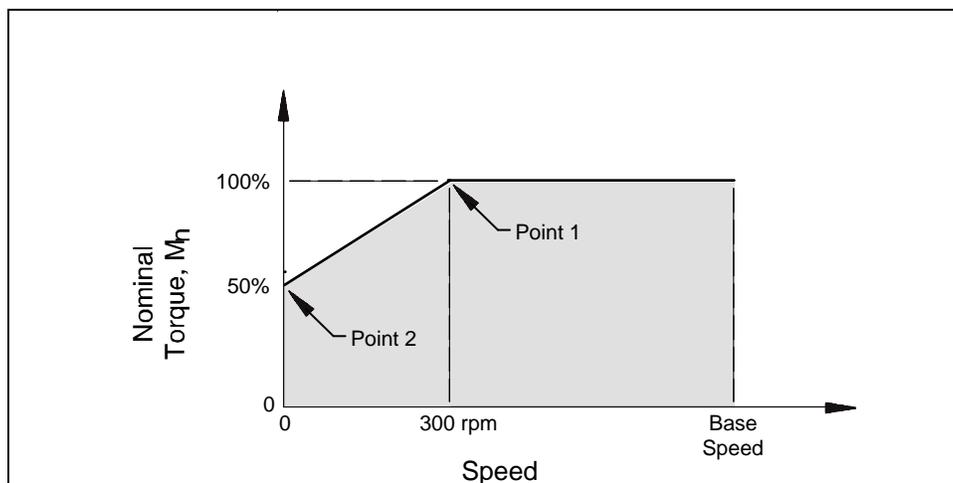

Figure 1: Continuous Motor Torque Versus Speed
Test results show that SEW motors are capable of producing the following continuous torque values based upon class F insulation and a maximum ambient temperature of 40°C (see also Figure 1).
From Figure 1, M_n is the nominal torque that the motor produces under full load without an inverter. It is constant from base speed down to 300 rpm. The torque available between 0 and 300 rpm is linear and is determined as follows.
3. Since the motor rotates at 135 rpm, it falls within the reduced torque range of figure 1. Therefore, it is necessary to calculate a reduced torque, using the formula in figure 2.